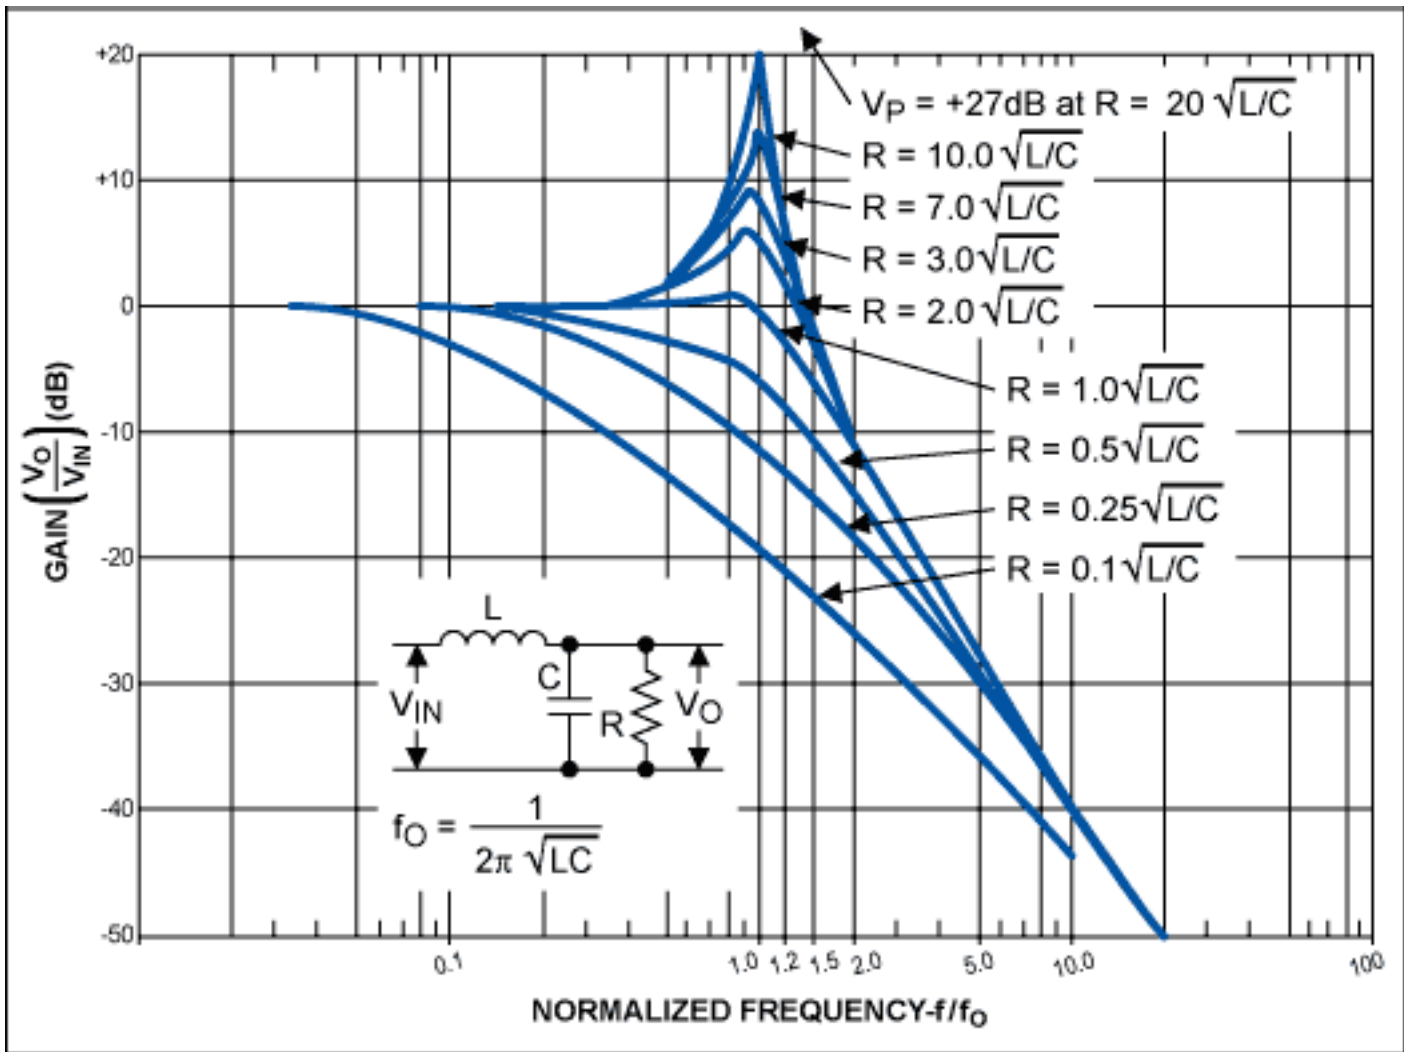

Figure 4a. LC filter amplitude characteristic for various damping ratios.
2. **An LC filter.** The problem with using this type of filter is the lack of inherent damping at the output of the network (input of the regulator). The source impedance of the network is low. However, the regulator's  $V_{IN}$  terminal presents a high impedance shunted with a small capacitor. (When the regulator is operated away from dropout with a constant load, its input current does not vary, to first order, when  $V_{IN}$  is varied.) It is impossible to critically damp the LC network at the input of the regulator without significant DC loss in the shunt damping resistor. For example, a series  $10\mu\text{H}$  inductor in combination with a shunt  $100\mu\text{F}$  capacitor exhibits a turnover frequency of 5kHz; this combination requires a critical damping resistor of  $0.32\Omega$  between network output (regulator input) and ground. **Figure 4a** illustrates the problem.